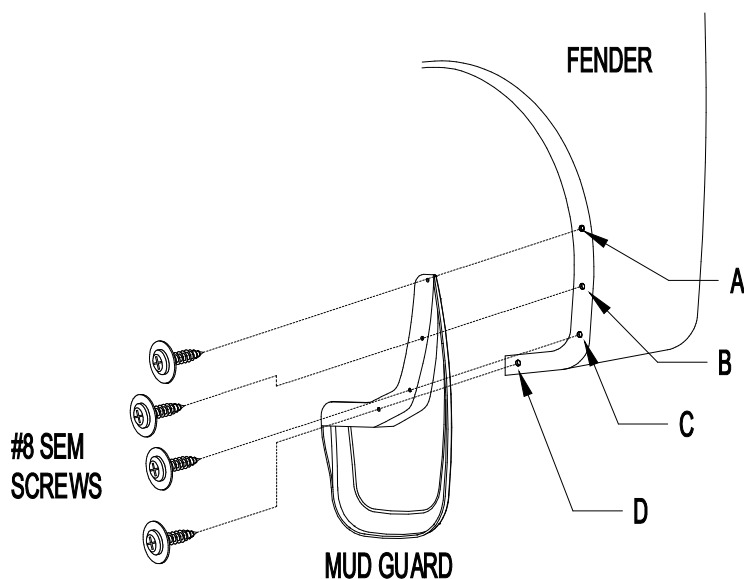

Figure 1
1. Remove existing fasteners from locations A, B, and E (Figure 1).
5. Using the mud guard as a template, drill a 1/8" hole at location D (Figure 1).
3. Install mud guard to rear fender with a #10 SEM screw at location B (Figure 1). Check fit and parallel and adjust accordingly before tightening.